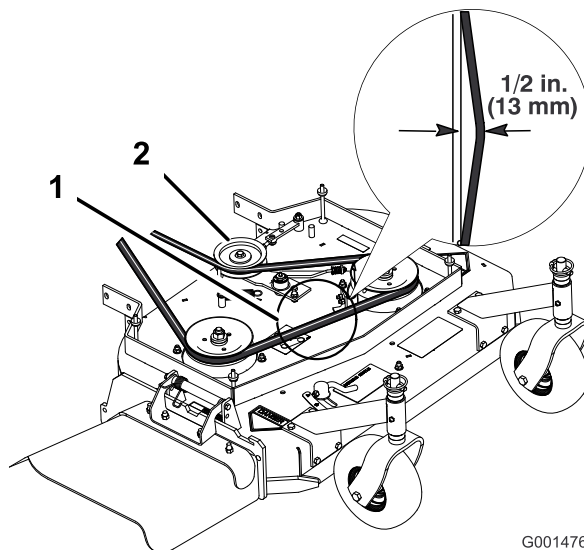
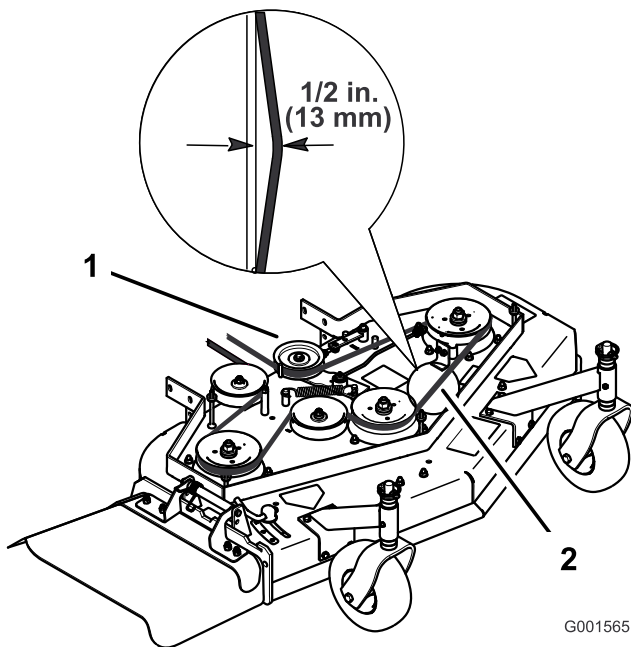

Figure 45
Figure 46
Note: The proper mower belt tension is 44 to 67 N-m (10 to 15 ft-lb) with the belt deflected 13 mm (1/2 inch) halfway between the pulleys (Figure 45 or Figure 46).
3. Loosen the locknut on the turnbuckle (Figure 45).
4. Rotate the turnbuckle toward the rear of the mower to increase the tension on the belt. Rotate the turnbuckle toward the front of the mower to decrease the tension on the belt (Figure 45).
Note: The proper mower belt tension is 44-67 N-m (10-15 ft-lb) with the belt deflected 13 mm (1/2 inch) halfway between the pulleys (Figure 45).
Note: The proper mower belt tension is 44 to 67 N-m (10 to 15 ft-lb) with the belt deflected 13 mm (1/2 inch) halfway between the pulleys (Figure 46).